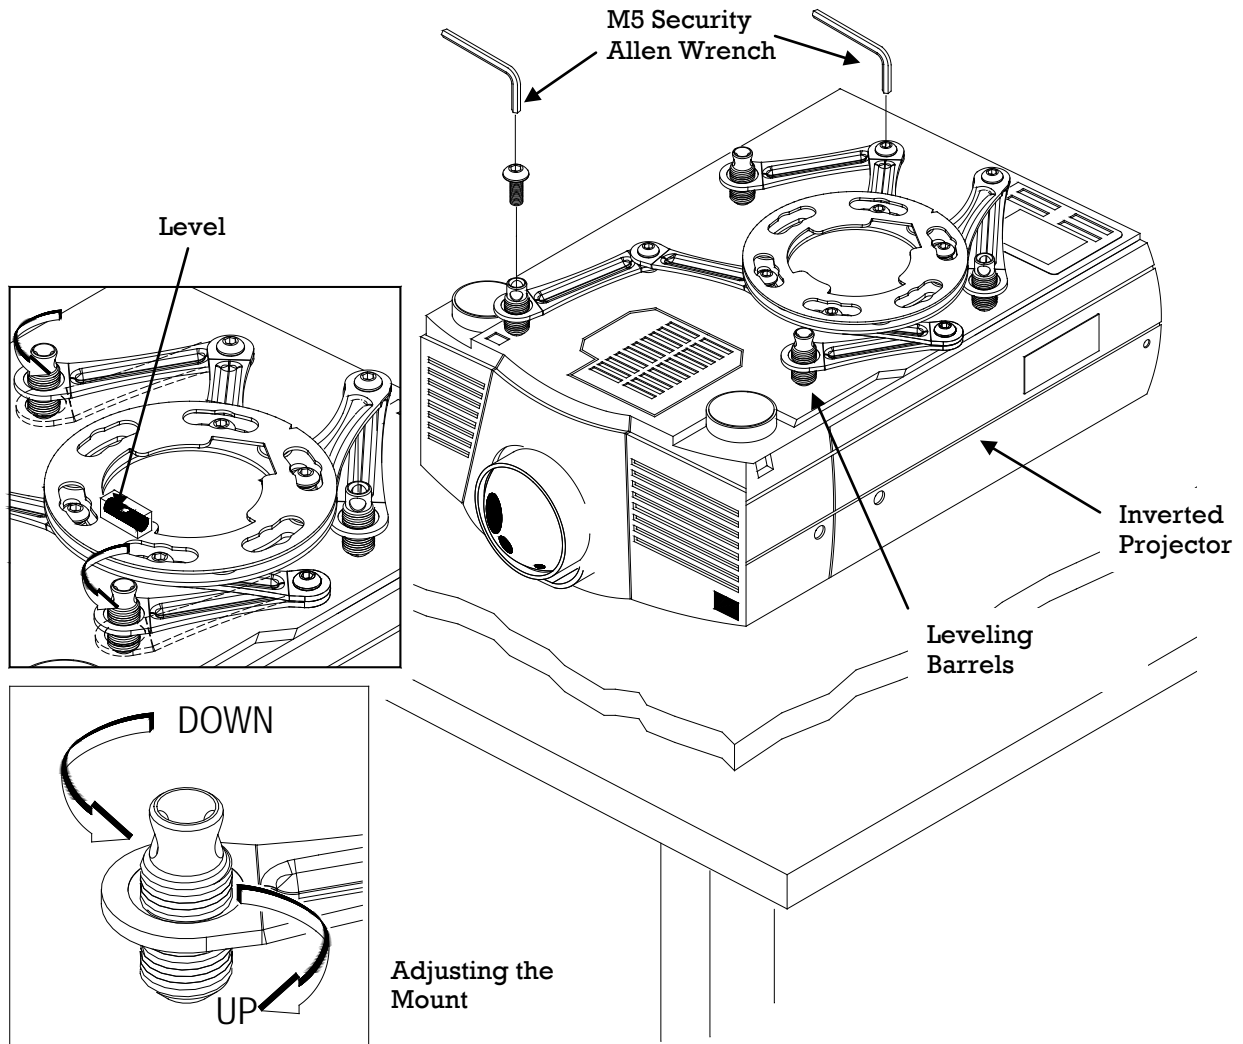

Figure 4. Leveling the Mounting Bracket
- Step 3. When the desired position is achieved, tighten the mounting screws to the projector and then tighten the security hex head leg screws with the M5 Security Allen Wrench (Figure 4).